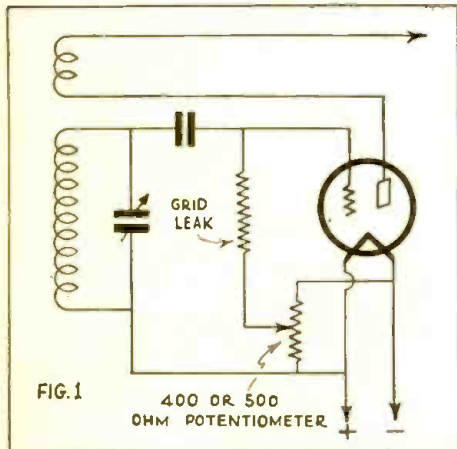

Fig. 1—A potentiometer connected as shown in the detector circuit is a great help in controlling regeneration.
(A) The diagram marked Fig. 1 shows how a high resistance potentiometer is connected to best advantage in a battery operated short-wave receiver. Note that the grid-leak is removed from its usual position across the grid con-